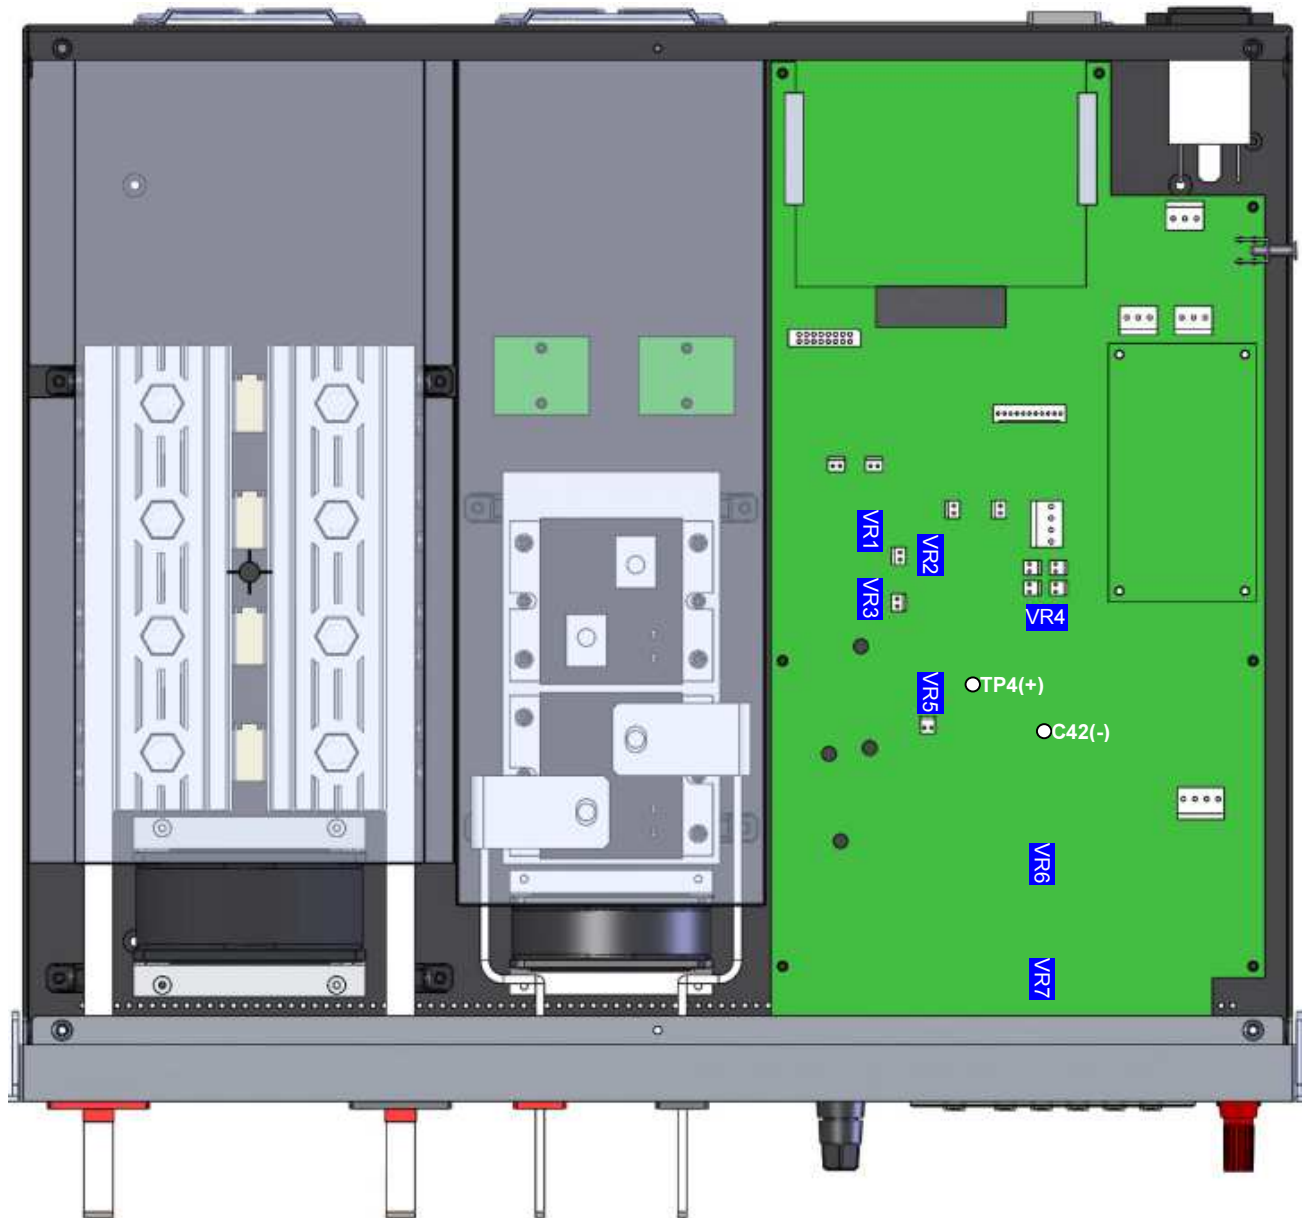

Fig 1-1 Potentiometer layout diagram
The 1000A should be calibrated, at intervals best determined by the user. It will be necessary to remove the top cover of instrument to gain access to the calibration adjustments. Top cover is removed by removing seven screws. The adjust potentiometer and reference are shown on fig 1-1. There are two circuitry needs to be calibrated : shunt and DAM these calibrations may be performed independently.
Press the key switch to the 0.2A position, connect the current calibrator cables to the 0.2A/2A/20A range terminals. Set the current calibrator output for 100mA and adjust VR6 (see fig 1-1) until the DVM reading is the same as the current calibrator output.
Press the key switch to the 2A position, connect the current calibrator cables to the 0.2A/2A/20A range terminals. Set the current calibrator output for 1A and adjust VR7 (see fig 1-1) until the DVM reading is the same as the current calibrator output.
Press the key switch to the 20A position, connect the current calibrator cables to the 0.2A/2A/20A range terminals. Set the current calibrator output for 10A and adjust VR2 (see fig 1-1) until the DVM reading is the same as the current calibrator output.
Press the key switch to the 200A position, connect the current calibrator cables to the 200A range terminals. Set the current calibrator output for 100A and adjust VR3 (see fig 1-1) until the DVM reading is the same as the current calibrator output.
Press the key switch to the 1000A position. connect the current calibrator cables to the 1000A range terminals. Set the current calibrator output for 500A. Adjust VR1 (see fig 1-1) until the DVM reading is the same as the current calibrator output.
2. Connect the digital voltmeter to the TP4(+) \ C42(-) (see fig 4-1) of the model 1000A. Adjust VR5 (see fig 1-1) until the DVM reading is 0.000mA.